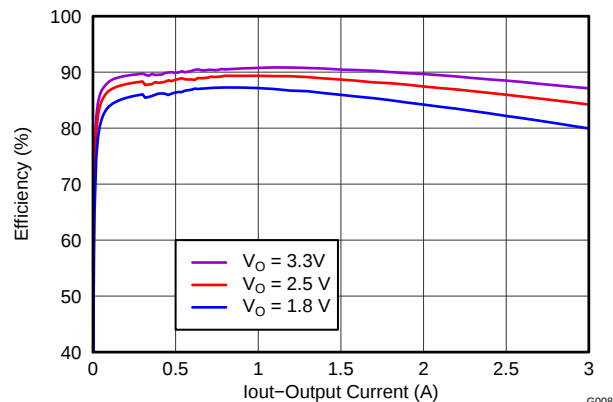
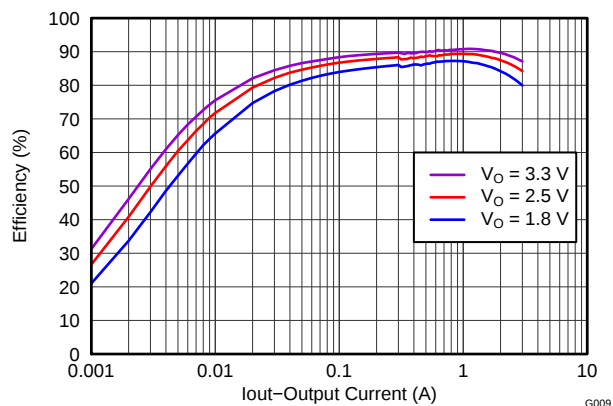

Figure 8. EFFICIENCY vs OUTPUT CURRENT
Figure 9. LIGHT LOAD EFFICIENCY vs OUTPUT CURRENT
- Deleted Swift™ from the data sheet title 1 - Changed Figure 8 and Figure 9 8